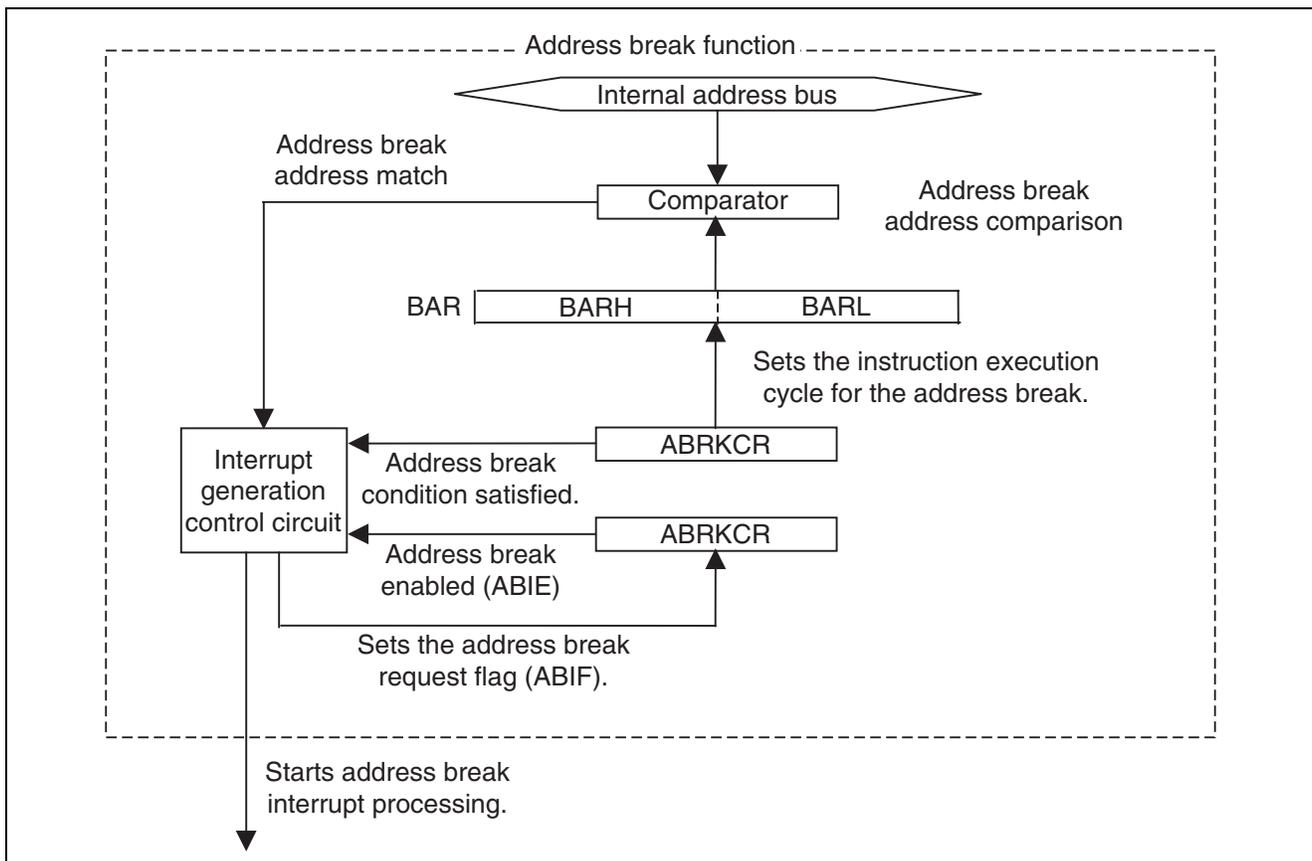

Figure 3 Address Break
1. Figure 3 illustrates an address break. Each item in the figure is explained below: